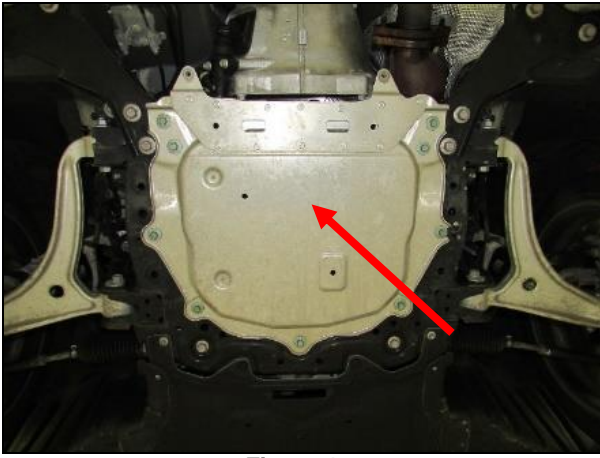

Figure 1
3. From under the car, remove (x9) 12mm bolt heads to remove the front splash guard under the motor (**Figure 1**).